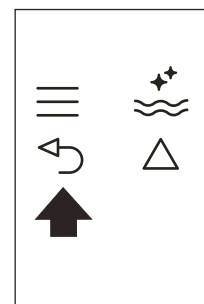

Fig. 25
- ▶ Press the ↶ icon (B6) (Fig. 25) twice to exit the menu.
- ▶ Press the  icon (B6) (Fig. 25) twice to exit the menu.